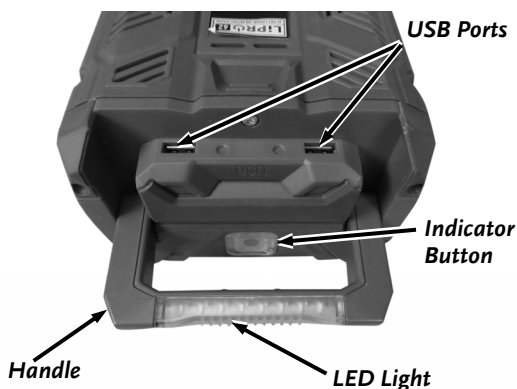

Figure 8
2. Flip the Handle to the open position (**Figure 8**)
2. Flip the Handle to the open position (**Figure 8**).